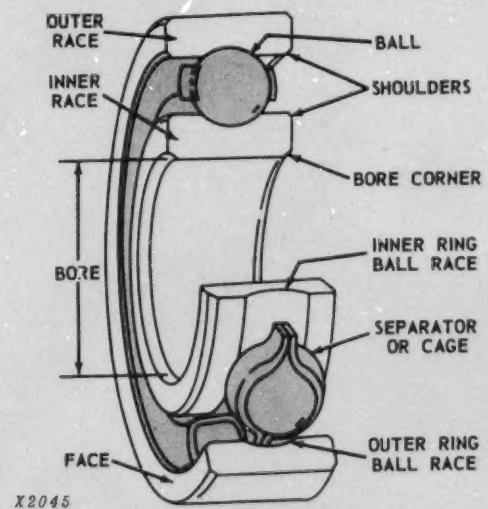

Fig. 28—Basic Parts Of A Bearing
- 1) *Two hardened-steel rings called races (Fig. 28).*